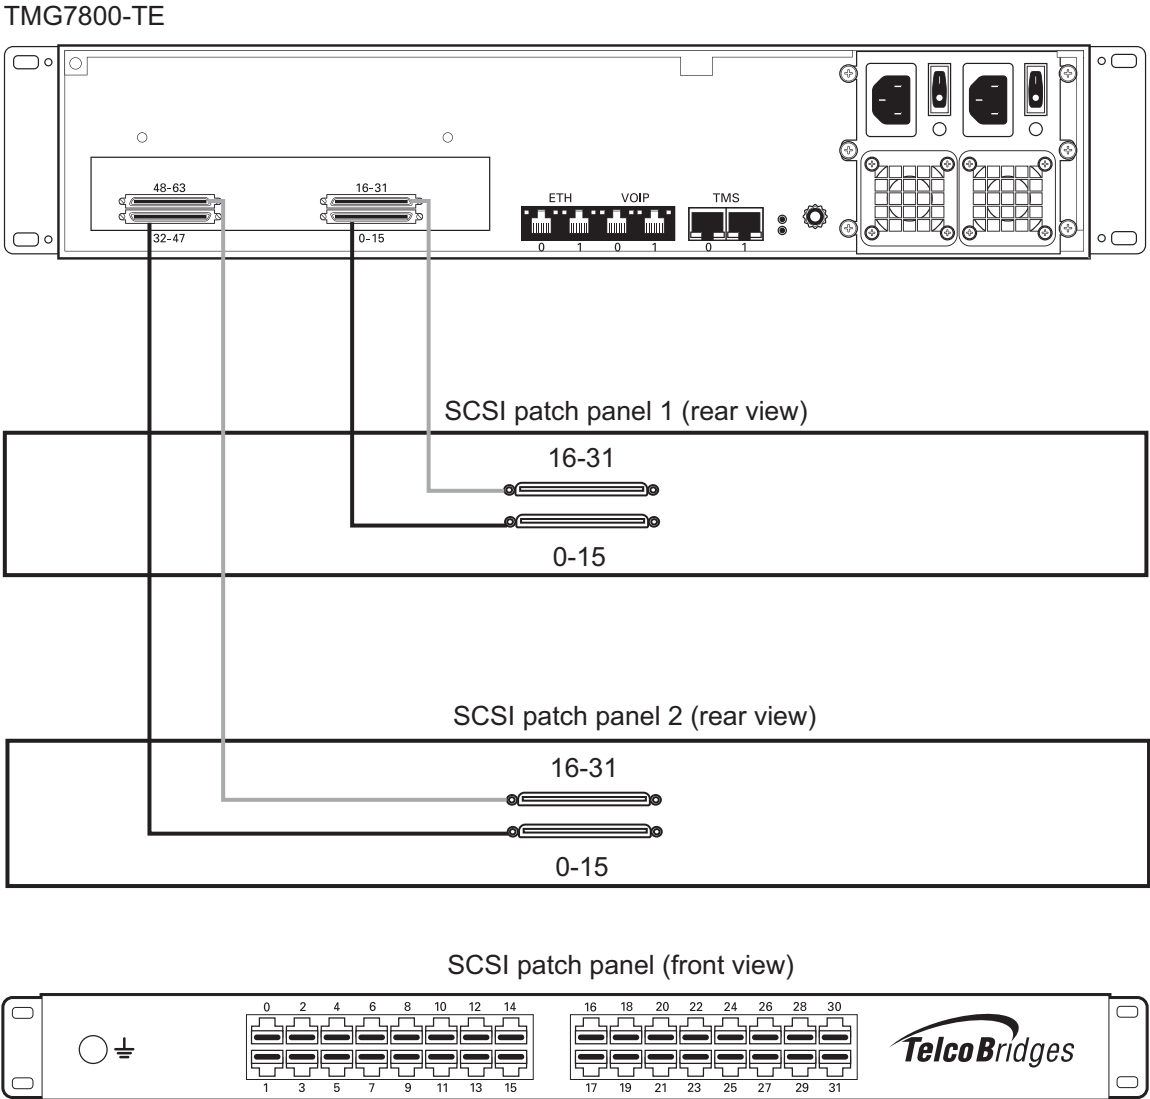

Figure 2.6 TMG7800 with SCSI connectors
1. Start with SCSI ports 0-15 located at the bottom right as shown in figure 2.6 on page 21. Connect one SCSI cable between this port and SCSI patch panel number 1, ports 0-15. Connect SCSI ports 16-31 to patch panel number 1, ports 16-31.